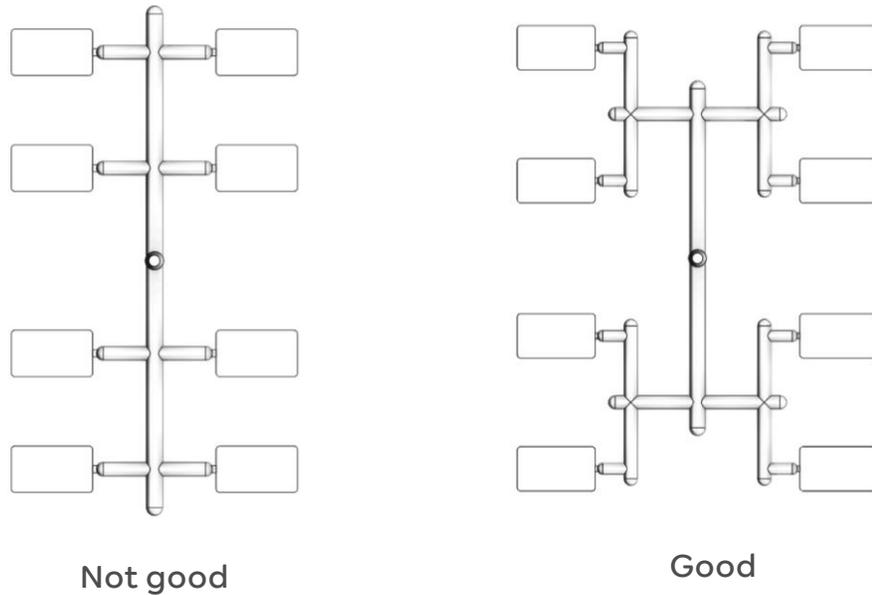

Fig 2-3: Equivalent flow runner layout
- Fig. 2-3 is an example of multi-cavity molds.